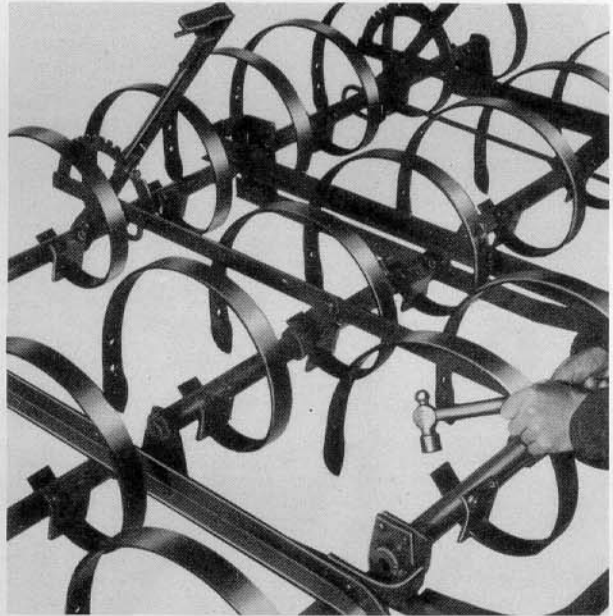

Figure 7
- b. Set levers of each section in the third notch from the front of the adjusting notches as shown in Figure 7.